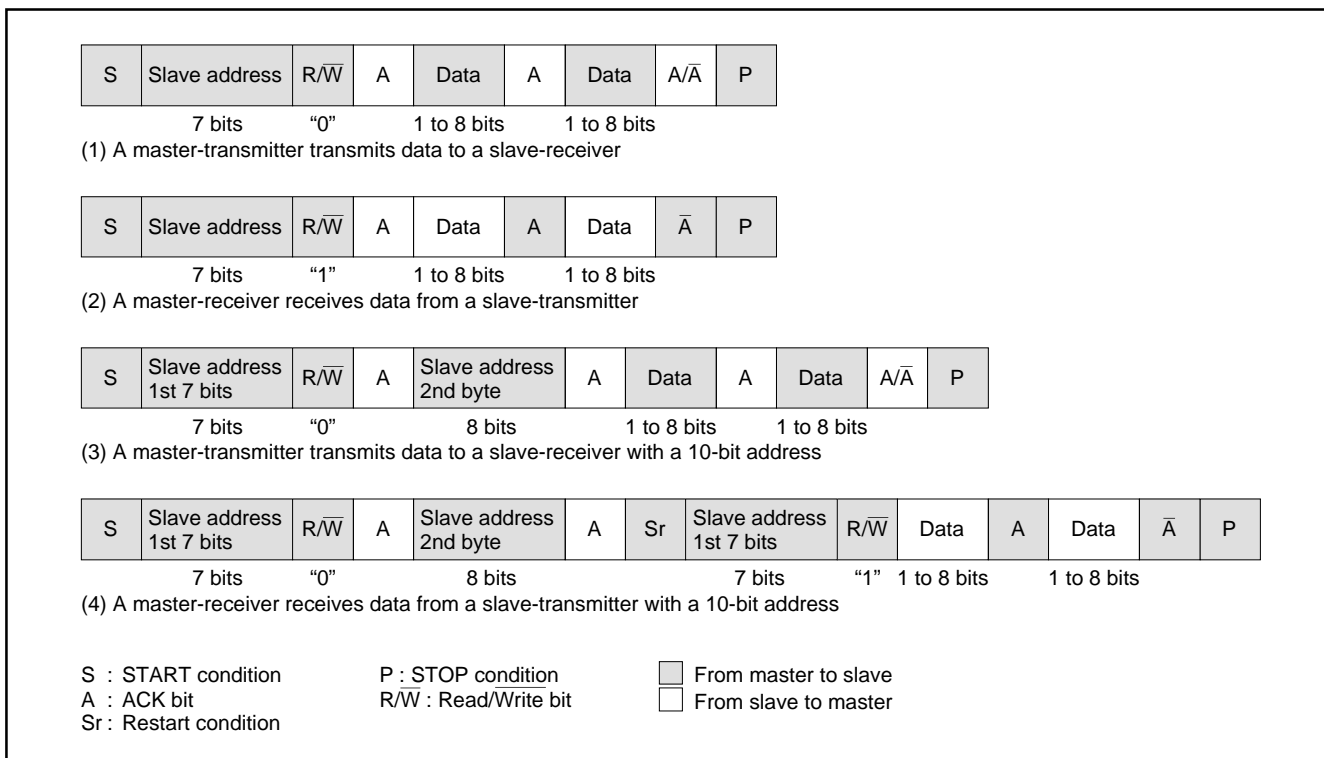

Fig. 34. Address Data Communication Format
① 7-bit addressing format
To meet the 7-bit addressing format, set the 10BIT SAD bit of the I²C control register (address 00DC₁₆) to "0." The first 7-bit address data transmitted from the master is compared with the high-order 7-bit slave address stored in the I²C address register (address 00DA₁₆). At the time of this comparison, address comparison of the RBW bit of the I²C address register (address 00DA₁₆) is not made. For the data transmission format when the 7-bit addressing format is selected, refer to Figure 34, (1) and (2).
② 10-bit addressing format
When the first-byte address data matches the slave address, the AAS bit of the I²C status register (address 00DB₁₆) is set to "1." After the second-byte address data is stored into the I²C data shift register (address 00D9₁₆), make an address comparison between the second-byte data and the slave address by software. When the address data of the 2nd bytes matches the slave address, set the RBW bit of the I²C address register (address 00DA₁₆) to "1" by software. This processing can match the 7-bit slave address and R/W data, which are received after a RESTART condition is detected, with the value of the I²C address register (address 00DA₁₆). For the data transmission format when the 10-bit addressing format is selected, refer to Figure 34, (3) and (4).
(11) Example of Master Transmission